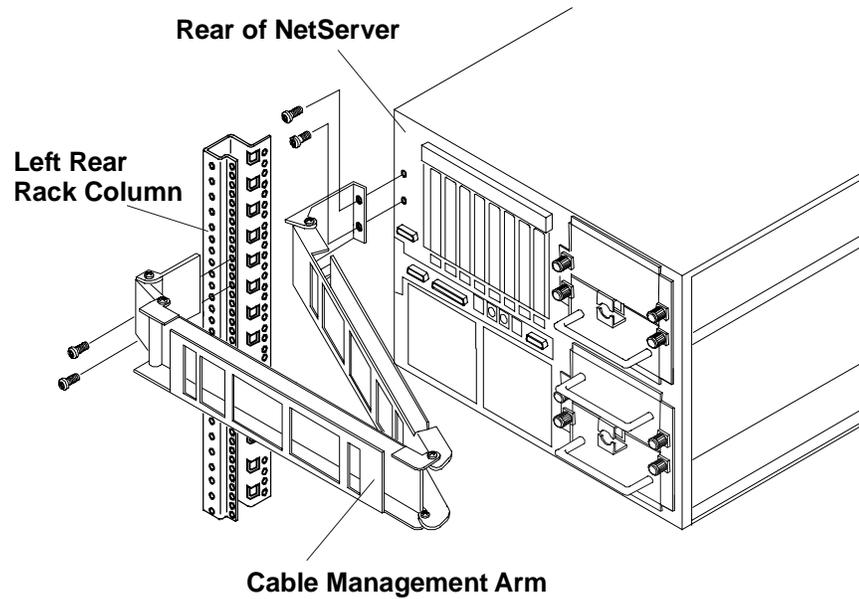

Figure 8-17. Attaching the Cable Management Arm
The Cable Management Arm for the HP NetServer LH 6000r can only be mounted on HP Systems racks. The HP NetServer Cable Management Arm allows the cables, including the power cords, to move in and out with the HP NetServer chassis on its slides without being accidentally disconnected (see Figure 8-17).
2. At the rear of the NetServer, place rack nuts on the left column in the 17th and 18th holes above the baseline of the HP NetServer (see Figure 8-17).
4. Orient the cable management arm as shown in Figure 8-17.